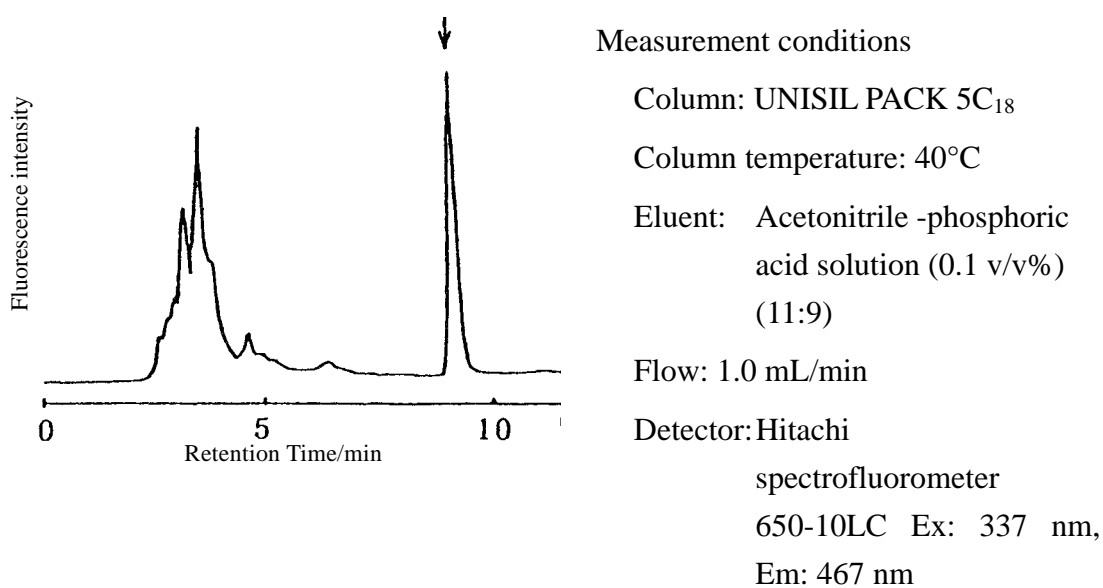

Figure 5.1.18-4 Chromatogram of ochratoxin A
- [6] An example of chromatograms for ochratoxin A is shown in Figure 5.1.18-4.